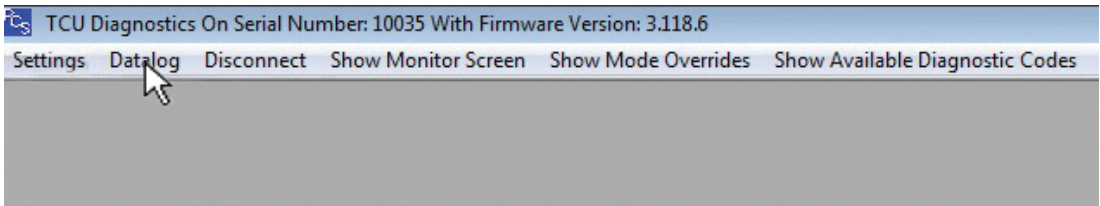

Figure 1
1. To start a datalog, select “Datalog” from the menu bar. **Reference Figure 1.**